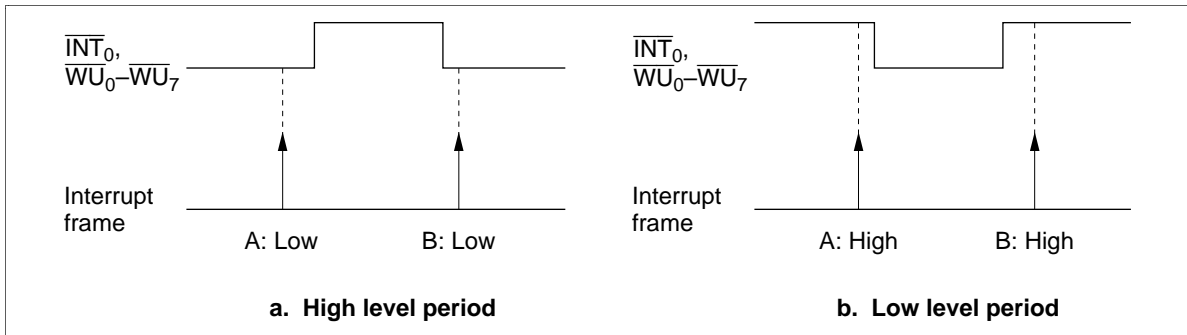

Figure 24 Sampling Example
**Stop Mode:** In stop mode, all MCU operations stop and RAM data is retained. Therefore, the power dissipation in this mode is the least of all modes. The  $OSC_1$  and  $OSC_2$  oscillator stops. Operation of the X1 and X2 oscillator can be selected by setting bit 3 of the system clock select register (SSR1: \$029; operating: SSR13 = 0, stop: SSR13 = 1) (figure 24). The MCU enters stop mode if the STOP instruction is executed in active mode when bit 3 of timer mode register A (TMA: \$008) is set to 0 (TMA3 = 0) (figure 40).
In figure 24, the level of the  $\overline{\text{INT}}_0$  and  $\overline{\text{WU}}_0\text{--}\overline{\text{WU}}_7$  signals are sampled by an interrupt frame. In (a) the sampled value is low at point A, and also low at point B. Therefore, a falling edge will not be detected. In (b), the sampled value is high at point A, and also high at point B. A falling edge will not be detected in this case either.